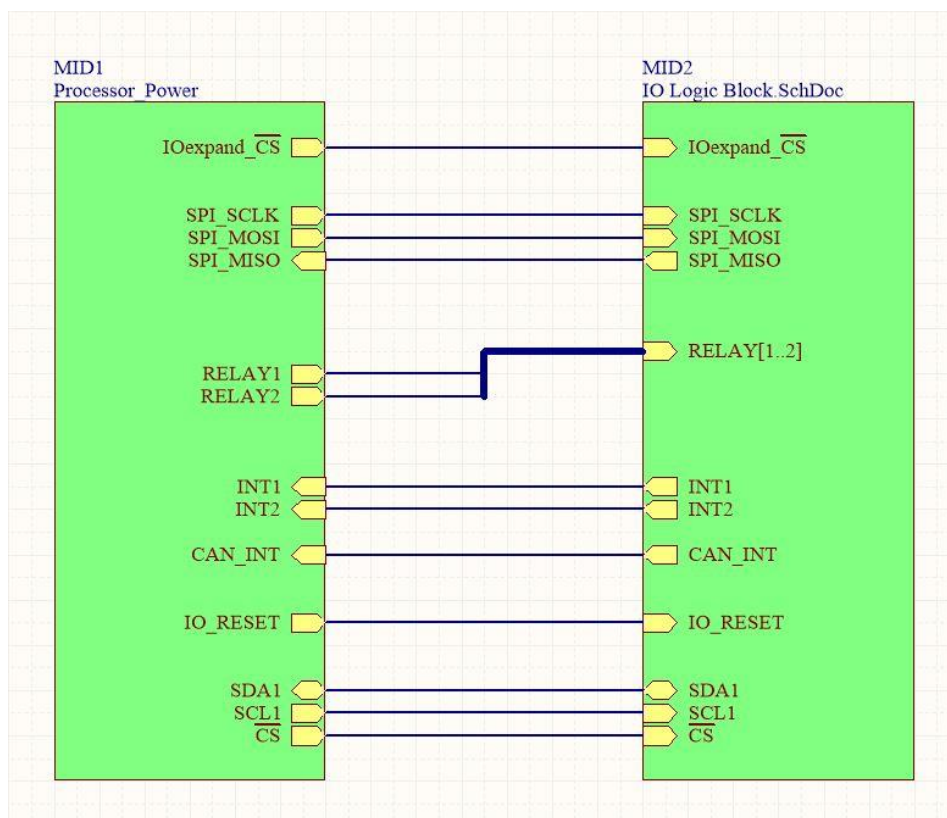

Figure 6. Wired Sheet Symbols
- b) Proceed downwards so that there is sufficient amount of bus wire available for wires to extend to the `RELAY1` and `RELAY2` sheet entries of the `MID1` sheet symbol, as shown in Figure 6, and left-click.
27. Wire the `RELAY1` and `RELAY2` sheet entries of the `MID1` sheet symbol to the bus using **Place » Wire**, as shown in Figure 6 below. Right-click to end the command when you are finished.